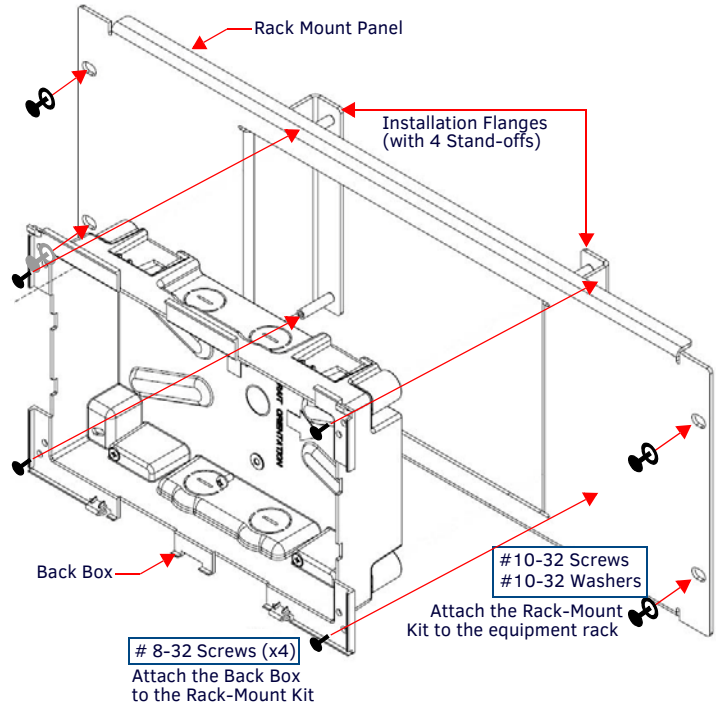

FIG. 2 INSTALLATION OF THE BACK BOX INTO THE MSA-RMK-10, FRONT VIEW
1. Secure the Rack Mount Panel to the rack with #10-32 screws. Make sure that the installation flanges face away from the front of the rack (FIG. 2).